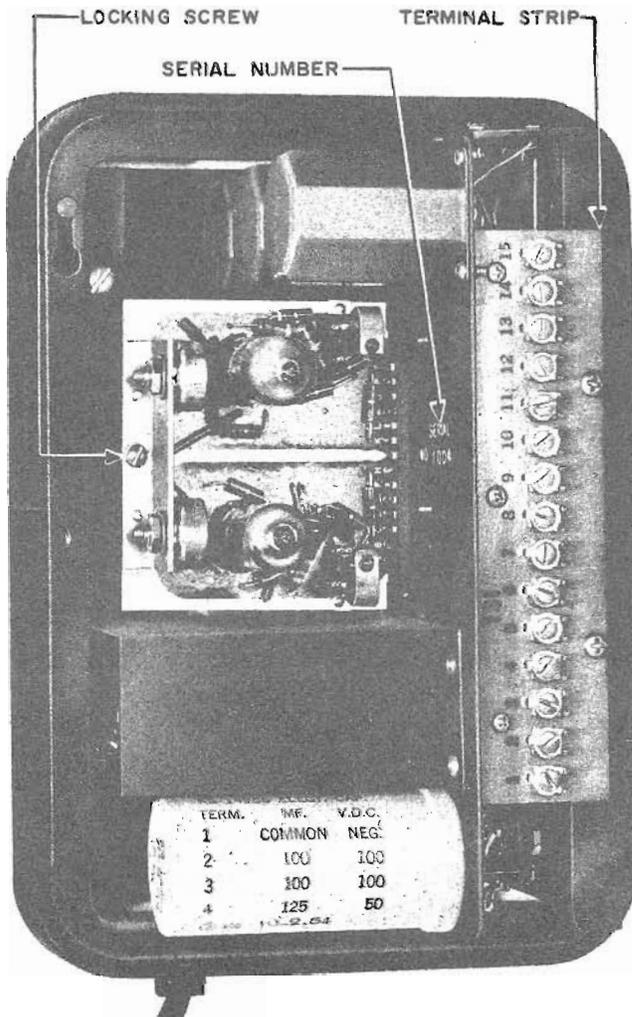

Fig. 3 — KS-14964, List 2 Control Unit
2.07 The KS-14964, List 2 control unit (see Fig. 3) consists of an assembly of electronic apparatus mounted on a base approximately 9-5/8 by 7-1/8 inches.
- The amplifier is held in place by a screw when used with the KS-14964, List 2 control unit (see Fig. 3).